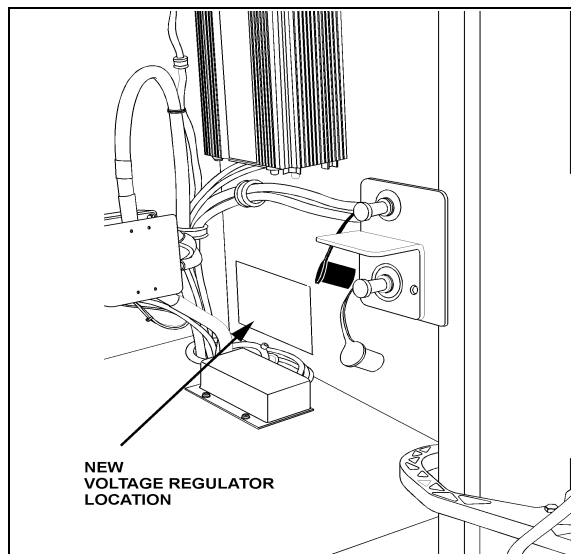

Figure 4 : voltage regulator location
9. Remove voltage regulator and relocate on the right hand side wall, under the Battery Equalizer (figure 4).